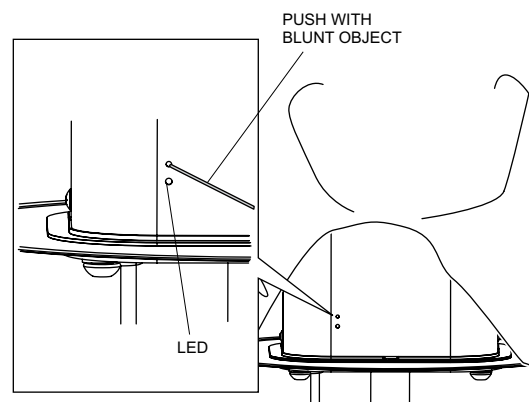

Figure 25. Turning Off Lamp Only
2. Push the button above the LED with a blunt object for three seconds as shown in Figure 25. LED will turn red and the lamp will turn off. The balloon will remain inflated.